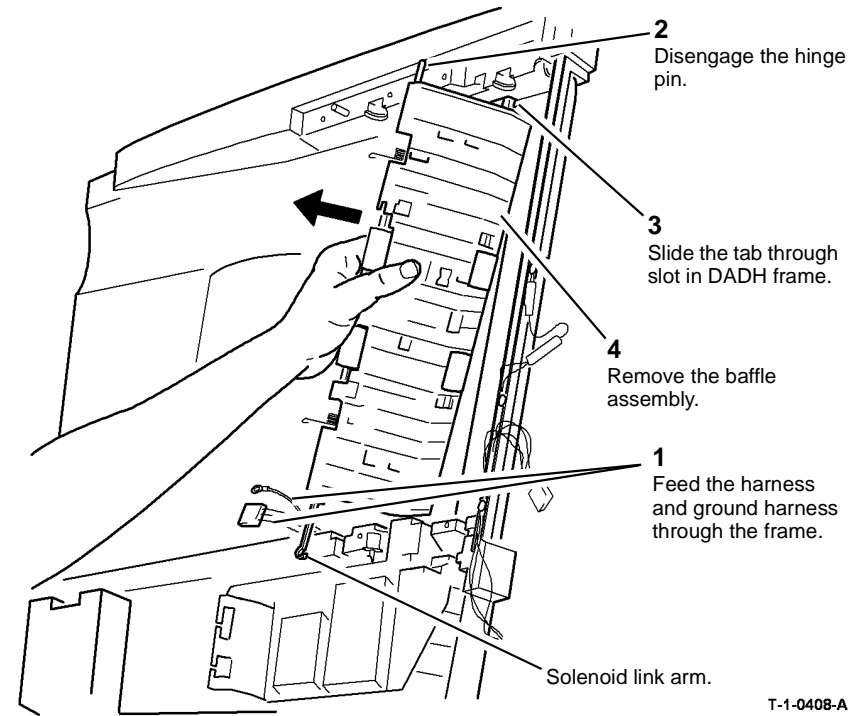

Figure 3 Baffle assembly
9. Remove the baffle assembly, **Figure 3**.